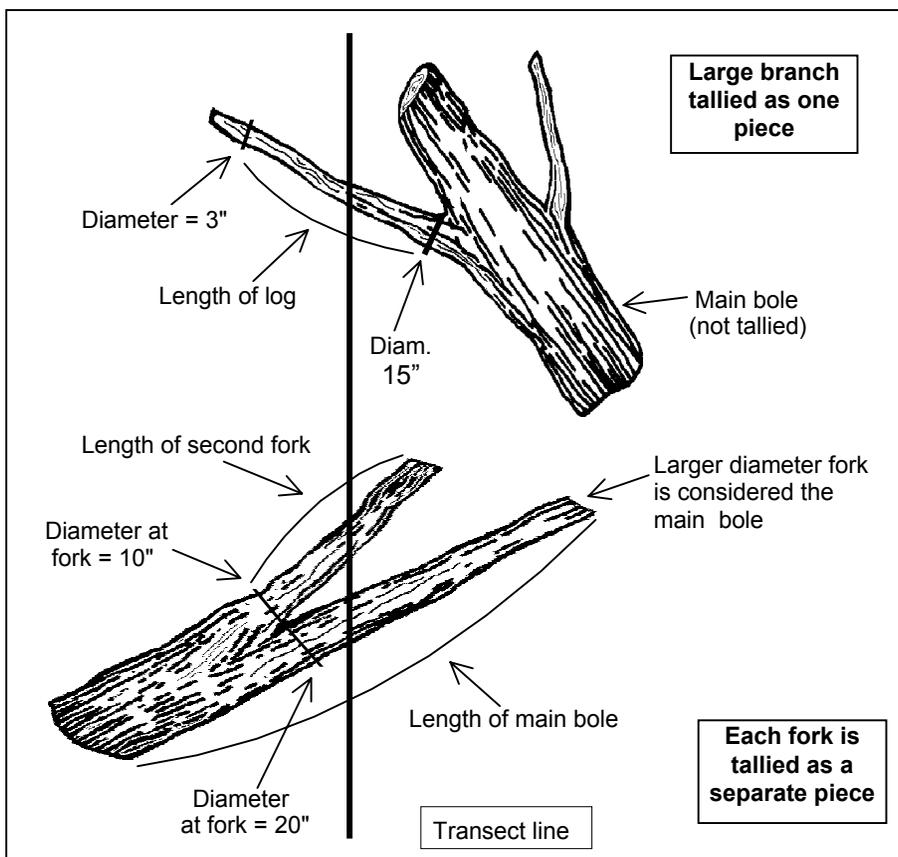

Figure 14-6. CWD tally rules for forked trees.
12. When the transect crosses a forked down tree bole or large branch connected to a down tree, tally each qualifying piece separately. To be tallied, each individual piece must meet the minimum diameter and length requirements. In the case of forked trees, consider the "main bole" to be the piece with the largest diameter at the fork. Characteristics for this fork such as length and decay class should pertain to the entire main bole. For smaller forks or branches connected to a main bole (even if the main bole is not a tally piece), characteristics pertain only to that portion of the piece up to the point where it attaches to the main bole (see Figure 14-6).